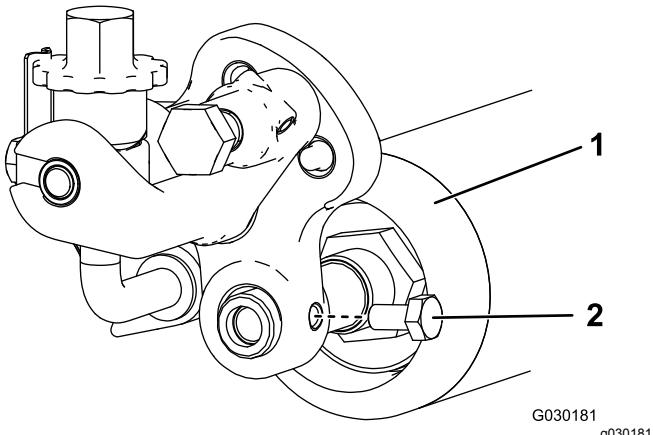

Figure 14
6. Insert the roller shaft into the right adjuster arm and loosely secure it with a short bolt (Figure 14).
14. Center the roller between the adjuster arms and tighten the mounting bolts (Figure 14).